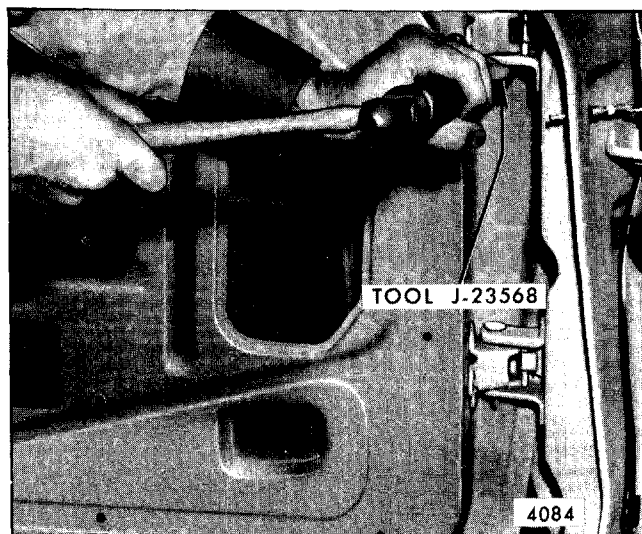
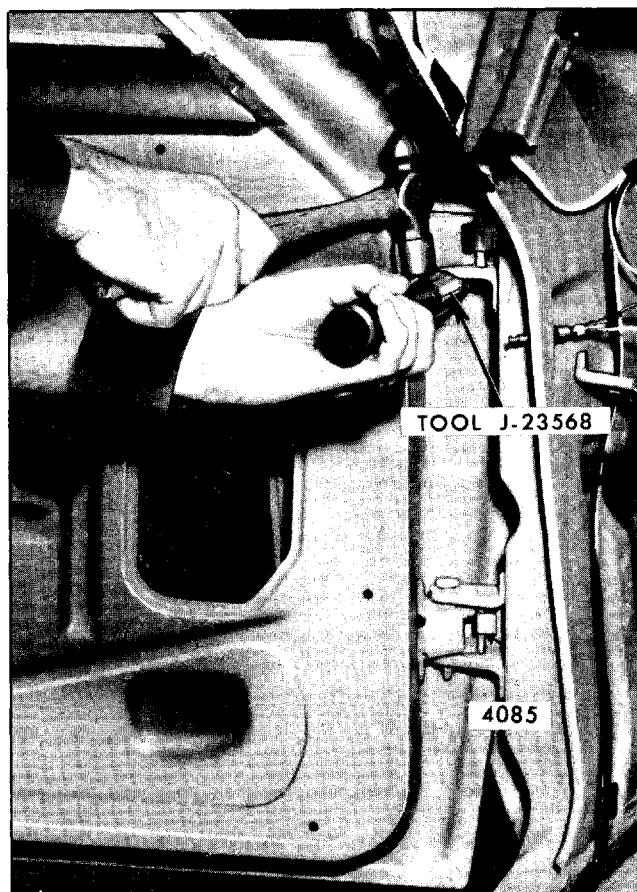

Fig. 5-90-Door Hinge Pin Removal - H Styles
Fig. 5-91-Door Hinge Pin Removal - H Styles
1. Using tool J-23568 or equivalent and the aid of a helper to support the door in an open position, drive wedge between the head of the hinge pin and the upper hinge as shown in Figure 5-90. Driving wedge at this location will partially remove the hinge pin from the hinge assembly. To completely remove the hinge pin, tap on the hinge pin removing tool as shown in Figure 5-91. Repeat operation outlined above on lower hinge.